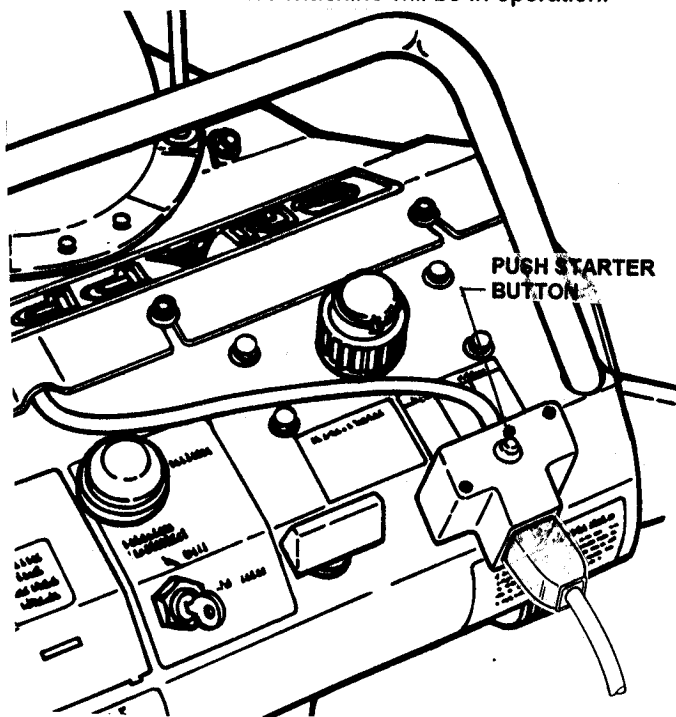

FIGURE 2.9
4. Push the electric starter button. DO NOT hold button for more than 20 seconds to avoid damaging the starting motor. See Figure 2.9